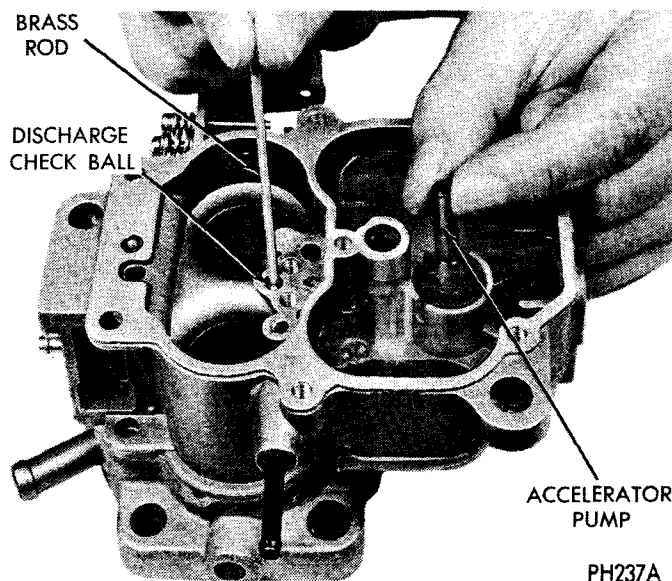

Fig. 16—Testing Accelerator Pump Intake and Discharge Check Balls
(3) Pour clean gasoline into carburetor bowl, approximately 1/2 inch deep. Remove pump plunger from container of mineral spirits and slide down into pump cylinder. Raise plunger and press lightly on plunger shaft to expel air from pump passage.
(4) Using a small clean brass rod, hold discharge check ball down firmly on its seat. Again raise plunger and press downward. No fuel should be emitted from either intake or discharge passage, (Fig. 16).